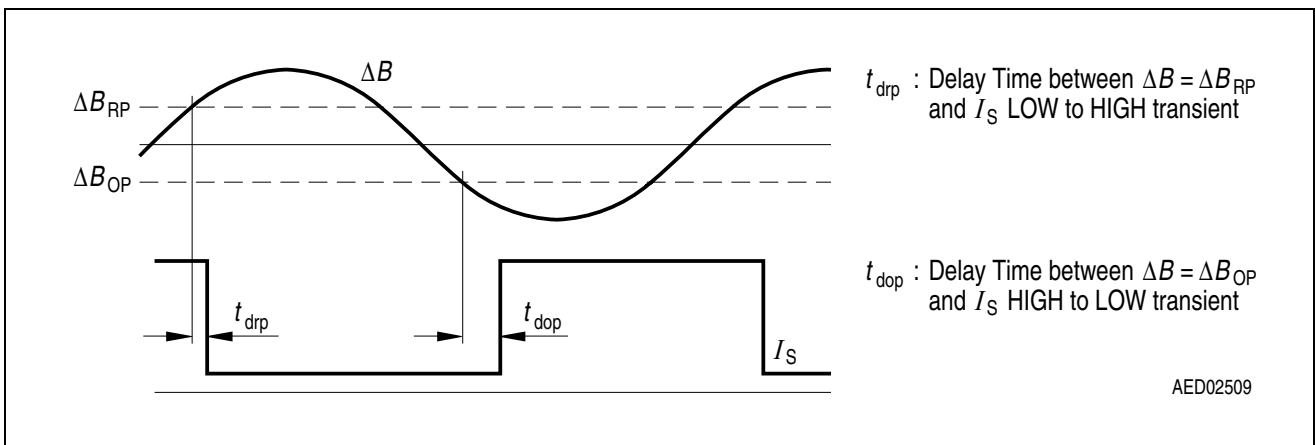

Figure 6 Definition of Delay Times (switching points related to initial measurement @ $\Delta B = 2 \text{ mT}$; $f = 200 \text{ Hz}$)
- 4) For definition see Figure 6.